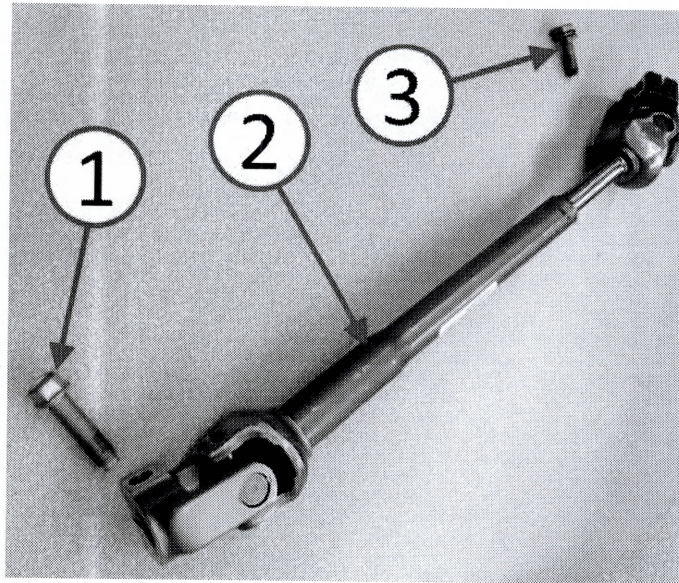

Fig. 1
9. Install the NEW I-shaft and bolts. Tighten the upper M8 bolt (I-shaft to column) to 28 N·m (21 ft. lbs.). Tighten the lower M10 bolt (I-shaft to gear) to 55 N·m (40 ft. lbs.) (Fig. 1). Refer to the detailed service procedures available in DealerCONNECT> TechCONNECT> under: Service Info> 19 - Steering> Column> SHAFT, Intermediate> Installation.